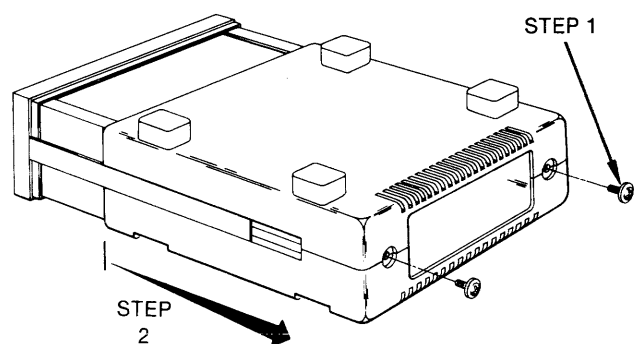
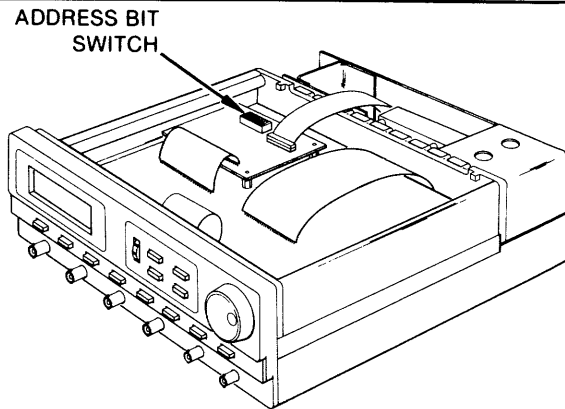

Figure 2-1. Top and Bottom Cover Removal
Figure 2-7. GPIB Address Bit Switch
To verify the line voltage (or change the fuse), the operator must first remove the top and bottom covers. Remove the top and bottom covers using the following steps and figure 2-1.
7. Secure covers to unit using two screws as shown in figure 2-1.
For OPT 001 instruments on the General Purpose Interface Bus (GPIB), ensure that the instrument GPIB address is correct. The GPIB address can be changed by the internal switch (figure 2-7) or the front panel STATUS key (rotate knob when GPIB ADRS is displayed). (See figure 2-1 for cover removal, 2-6 for installation.)